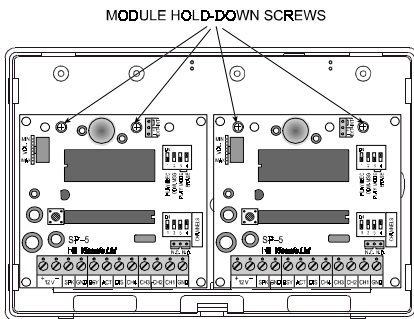

Figure 7. Dual Module Setup in UPB-3 Cabinet
- F. Put the SP-5 modules in place as shown in Figure 7 (with the bottom edge seated in the module edge support). Align the holes in the top part of the PCB with the plastic stand-off in the base. Secure the modules to the base with the short hold-down screws.